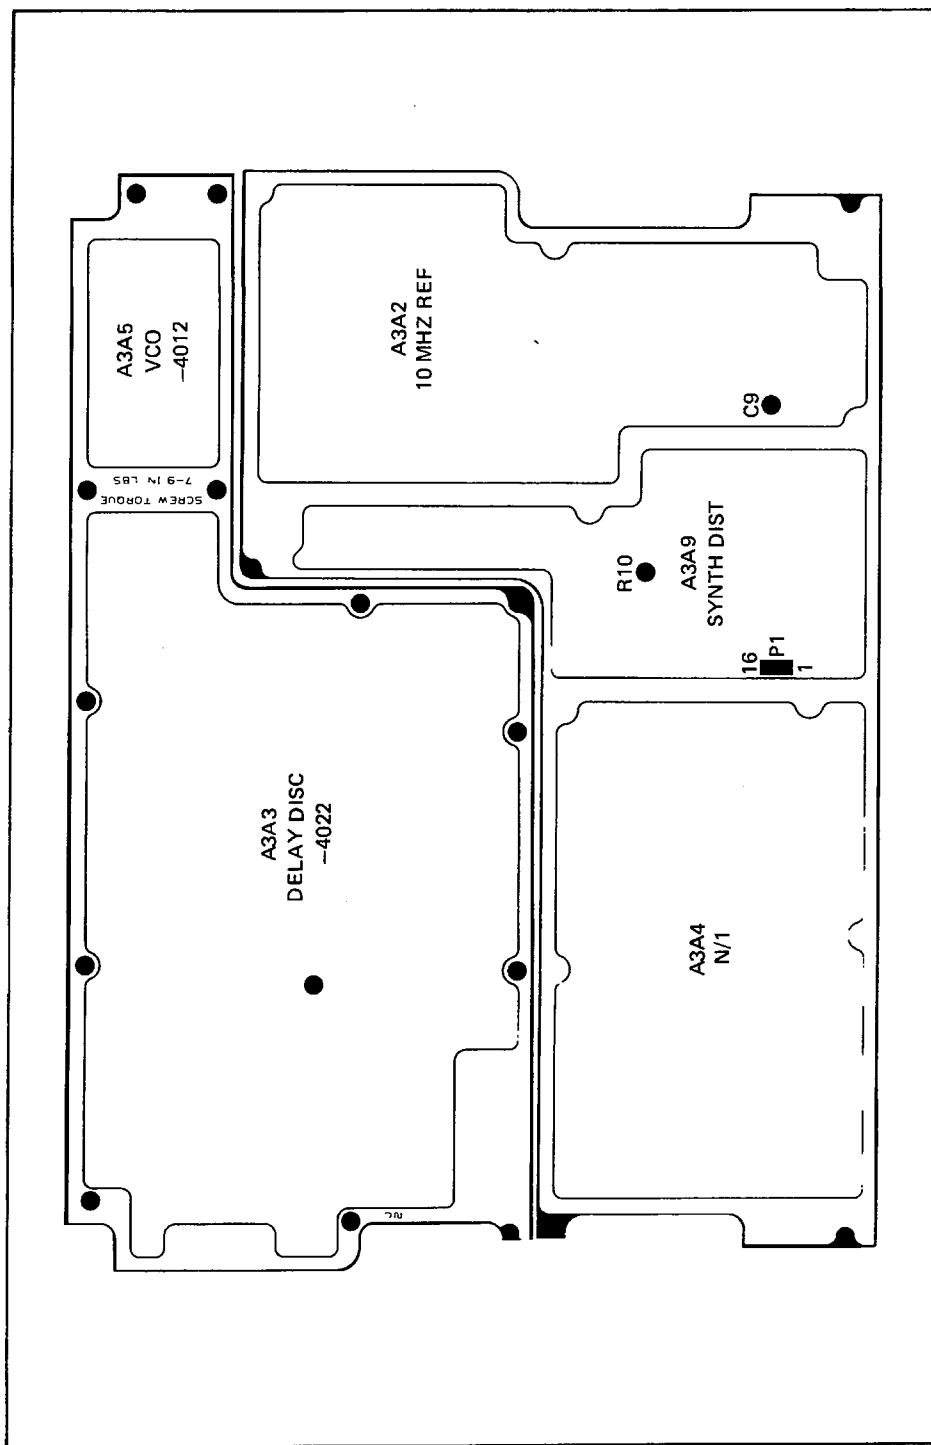

Figure 6-6. FM/BM Adjustments - Synthesizer Plate
12. Adjust R10 on the A3A9 Synthesizer Distribution PCB (Figure 6-6) for a Modulation Analyzer reading of 100.1 kHz.
7. Adjust R10 on the A3A9 Synthesizer Distribution PCB (Figure 6-6) for a Modulation analyzer reading of 92.7 kHz.